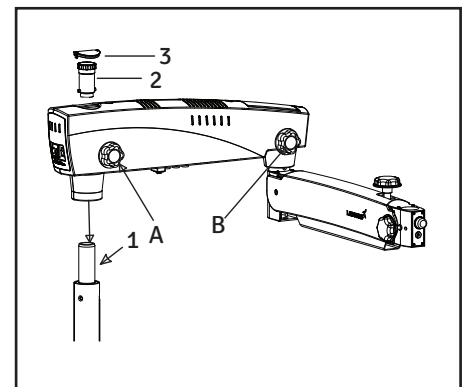

Fig 3
3. Remove the arm assembly from the box and follow the instructions below (see Fig. 3).
- A. Ensure that the swivel arm lock knob (A) is loosened.
- B. Place the arm assembly on the column shaft (1) shown in Fig. 3.
- C. Screw in the threaded plug from the top (2).
- D. Put the protective cap (3) in place, and loosen the suspension arm locking knob (B) so that it can be rotated.
Do not unscrew knob A completely (see Fig. 3). Loosen only a few threads; otherwise the lock ring inside the column guide may disconnect and installation may not be possible.